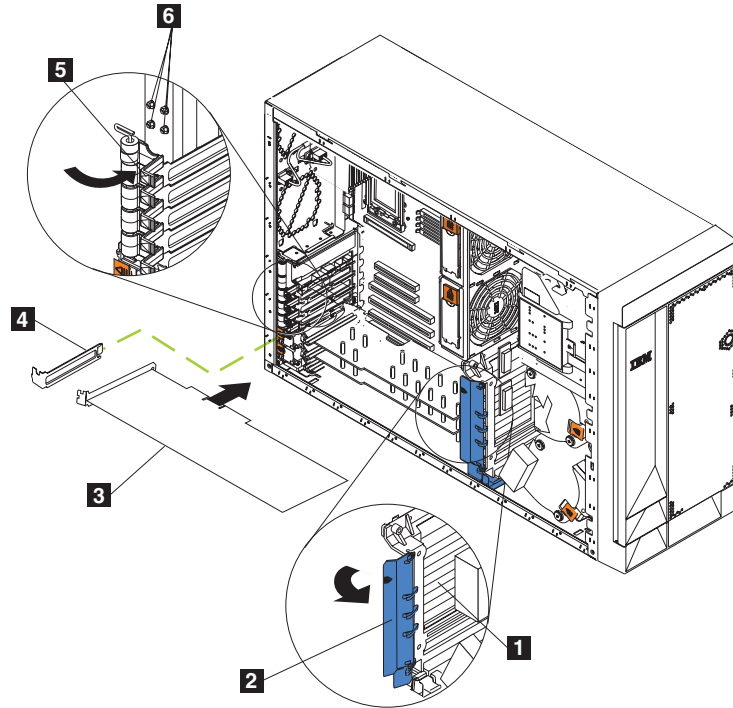
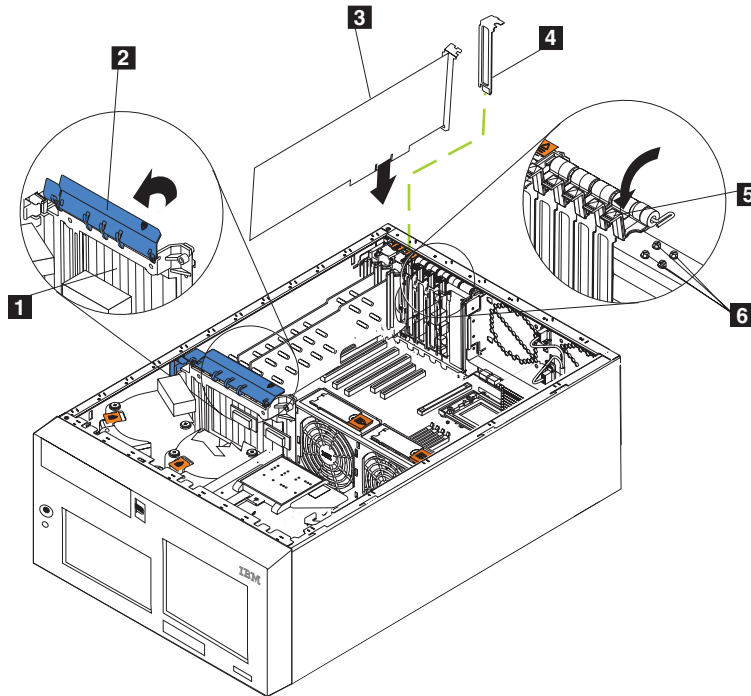

Figure 42. Installing an adapter (Model 25T)
Figure 43. Installing an adapter (Model 25T with the rack-mount conversion feature)
5. Lift the adapter-retention clip on top of the adapter-support bracket and the adapter-retention latch from each full-length adapter; then, remove the full-length adapters. (See Figure 42 on page 105 and Figure 43 on page 106 for the location of the adapter-retention clip.)
Figure 42 and Figure 43 on page 106 show how to install a PCI adapter.